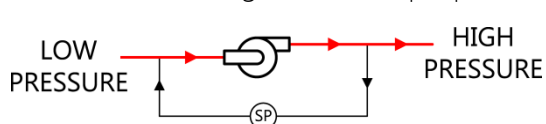

Figure 1 – Pump
sample station so that the collection obtained is representative of the process at the exact time the grab sampling occurred. The fast loop is a far better method for obtaining representative samples when compared with other techniques, such as running the process media to a drain or sewer to eliminate dead volume before a sample has been gathered. Fast loop or speed loop designs are also used when designing online analyzer applications for the chemical and petrochemical industry. Figures 1 and 2 show two common methods for incorporating a fast loop into an engineered sample point (SP).